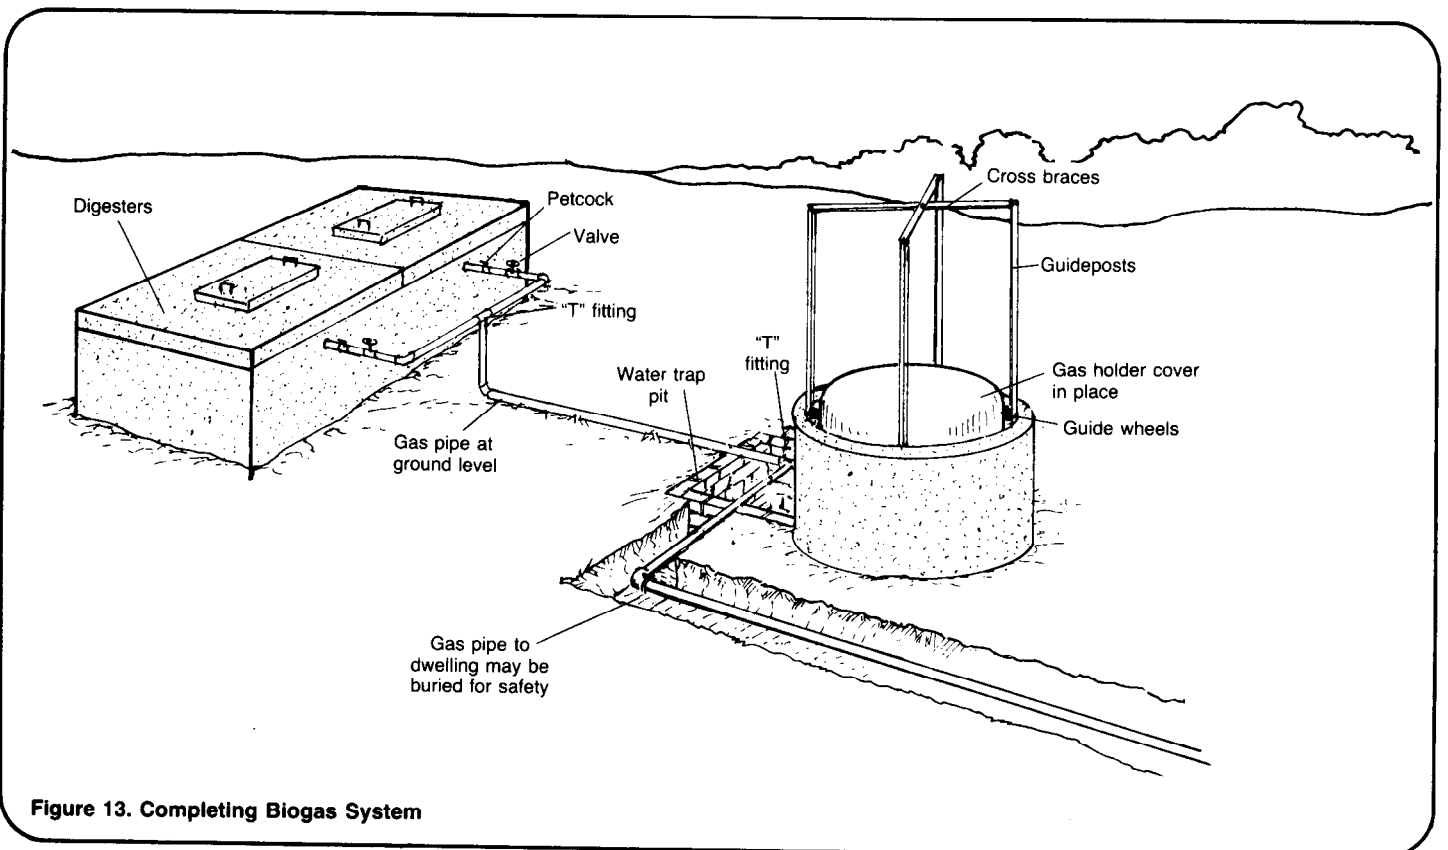

Figure 13. Completing Biogas System
3. Lower the prefabricated gas cover in place. The guide wheels on the cover should fit into the guide posts. The stops on the guide posts will prevent the cover from sliding to the floor of the gas holder and damaging the gas pipe. See Figure 13.
1. Extend gas pipes from the digesters and attach a petcock and valve in each line. Join the lines with a "T" fitting. See Figure 13. Extend the line to the water trap pit and attach a "T" fitting in or near the pit. This fitting will be used to extend the line to the dwelling.